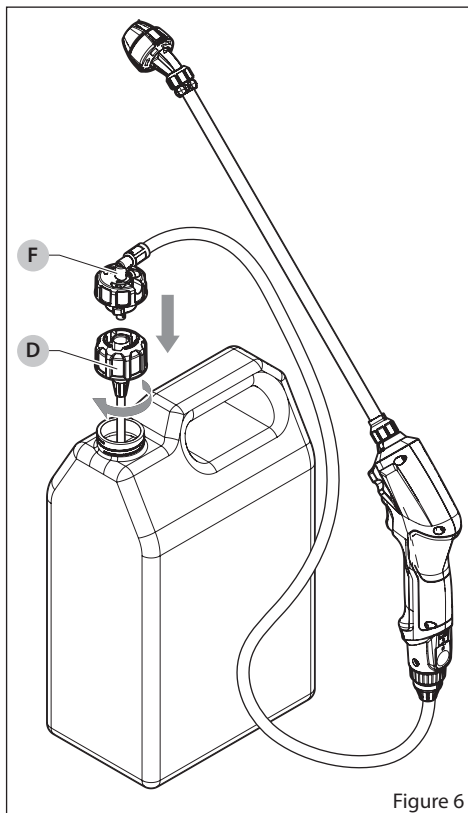

Figure 6
The power wand tool can be alternatively used with any bottle with a 38 mm opening using the included RTU (Ready-To-Use) cap (D). See Figure 6.
1. Insert the dip tube on the RTU cap (D) into the bottle of your choice. Turn cap clockwise until secured to the bottle.
2. Align hose barb tabs (F) with the RTU cap (D), push hose barb into RTU cap until it stops.